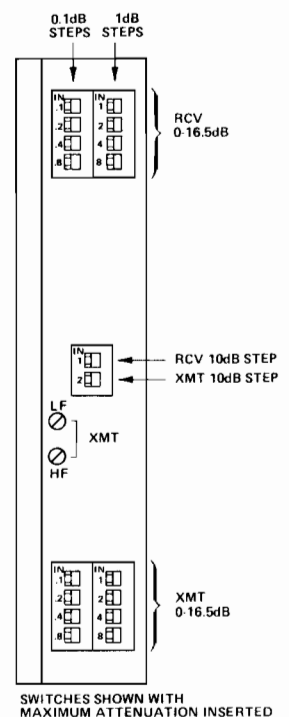

figure 2. 6945 front-panel controls
2.05 Adjustable attenuators in the transmit and receive paths provide for interfacing the -16 transmit and $+7$ receive facility-side TLP's with conventional terminal-side levels. From 0 to 26.5dB of loss may be introduced in 0.1dB increments via front-panel DIP switches (see figure 2). Total attenuation in either channel is the sum of that channel's switches set to the $/N$ position.